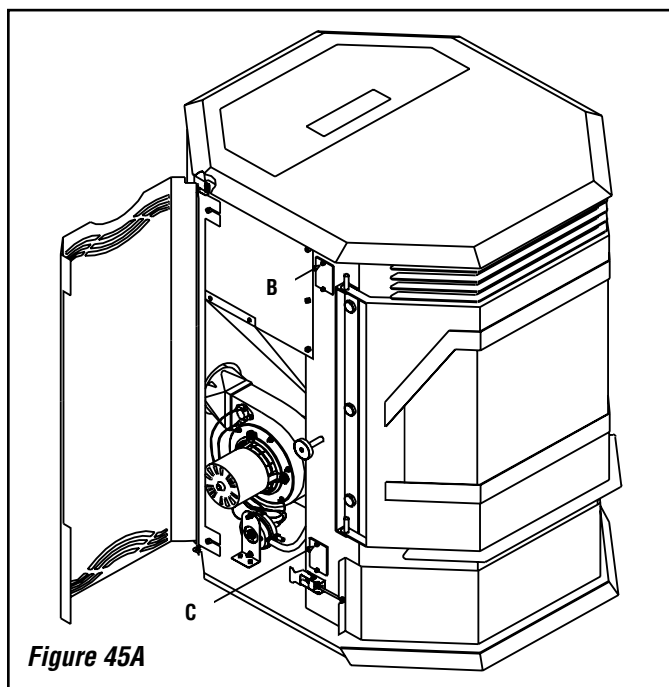

Figure 45A
Inspect the condition of the rope gasket around the door, window and ash drawer, periodically, and replace if necessary. Inspect the die-cut gaskets on the access covers (B and C in **Figure 45A**) and replace if necessary.
1. Open both the right and left side door to locate side clean-out covers (see B and C in **Figure 45A**).
2. There is one upper and one lower, 1" x 2", clean-out covers on both the left and right sides (see B and C in **Figures 45A, 45B and 45C**).